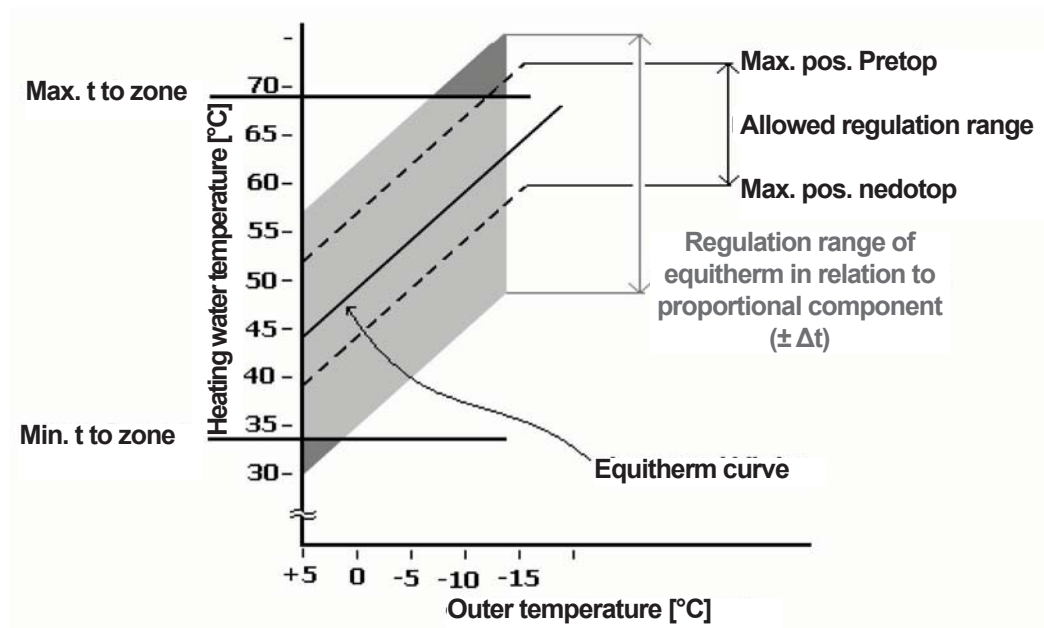

Fig. 2
Such calculated required change of heating water temperature is limited to maximum value set by parameters: Max. pos. pretop and Max. pos. nedotop (see below and figure 2).
- Limiting of maximum change of temperature calculated by proportional component (see above and figure 2).